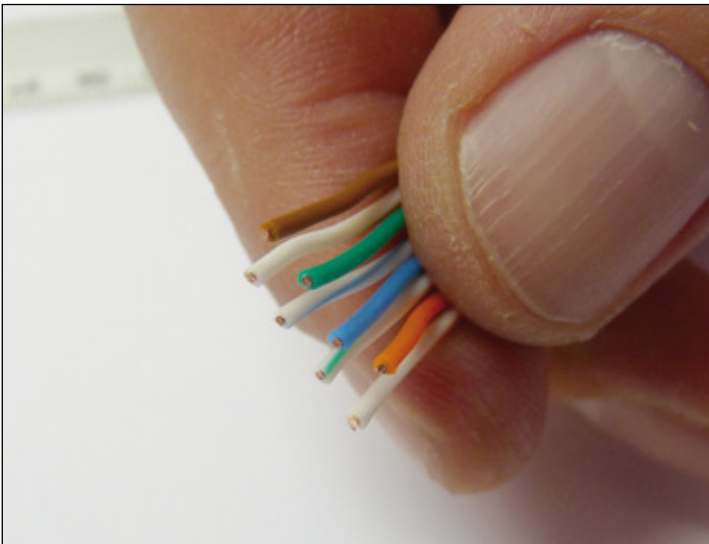

Figure 11
- 9 Proceed to bend the individual color coded conductors with an 10 to 15 degrees angle as shown in Figures 11 and 12, please follow color order as per the 568B coding in this example.